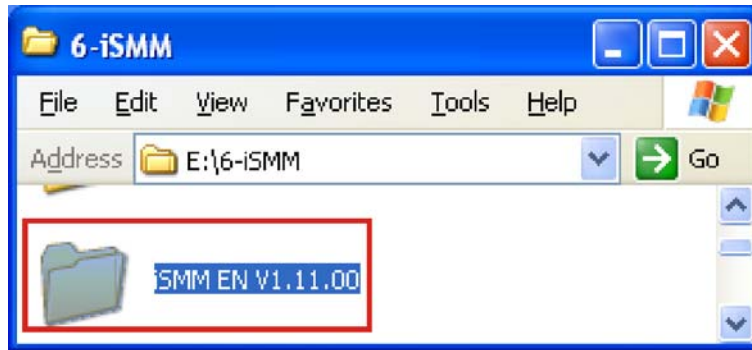

Figure 6-35: iSMM Directory
Step 3: The iSMM directory appears. (Figure 6-35)
Step 4: Double click the **iSMM EN V1.11.00** directory icon. (Figure 6-35)